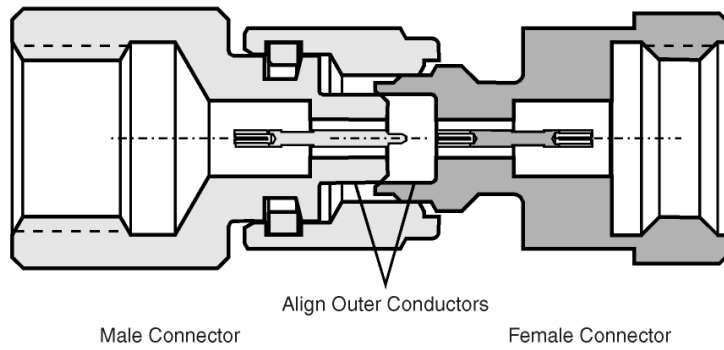
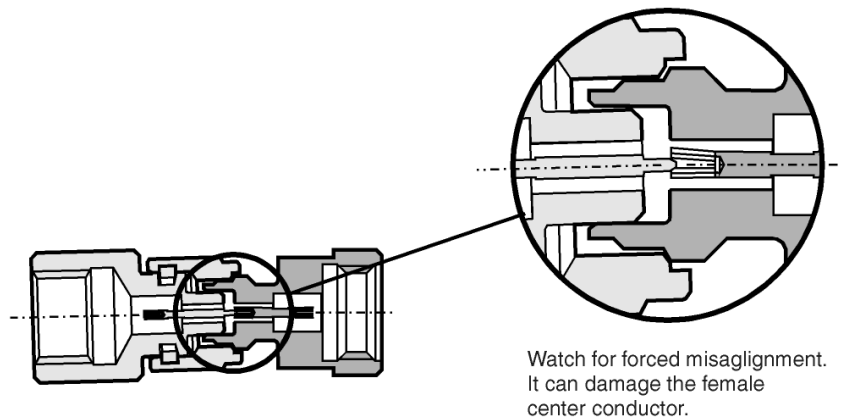

Figure 4-5 Alignment
Figure 4-6 Forced Misalignment
If one of the 1.0-mm connectors is free to move, self-alignment is possible during connection. Self-alignment occurs because outer conductors engage before the center conductors (refer to Figure 4-5 and Figure 4-6).
To achieve misalignment as shown in **Figure 4-6** you must use *excessive* force.
4. Carefully align the connectors. The male connector center pin must slip concentrically into the contact fingers of the female connector (refer to Figure 4-5 and Figure 4-6).